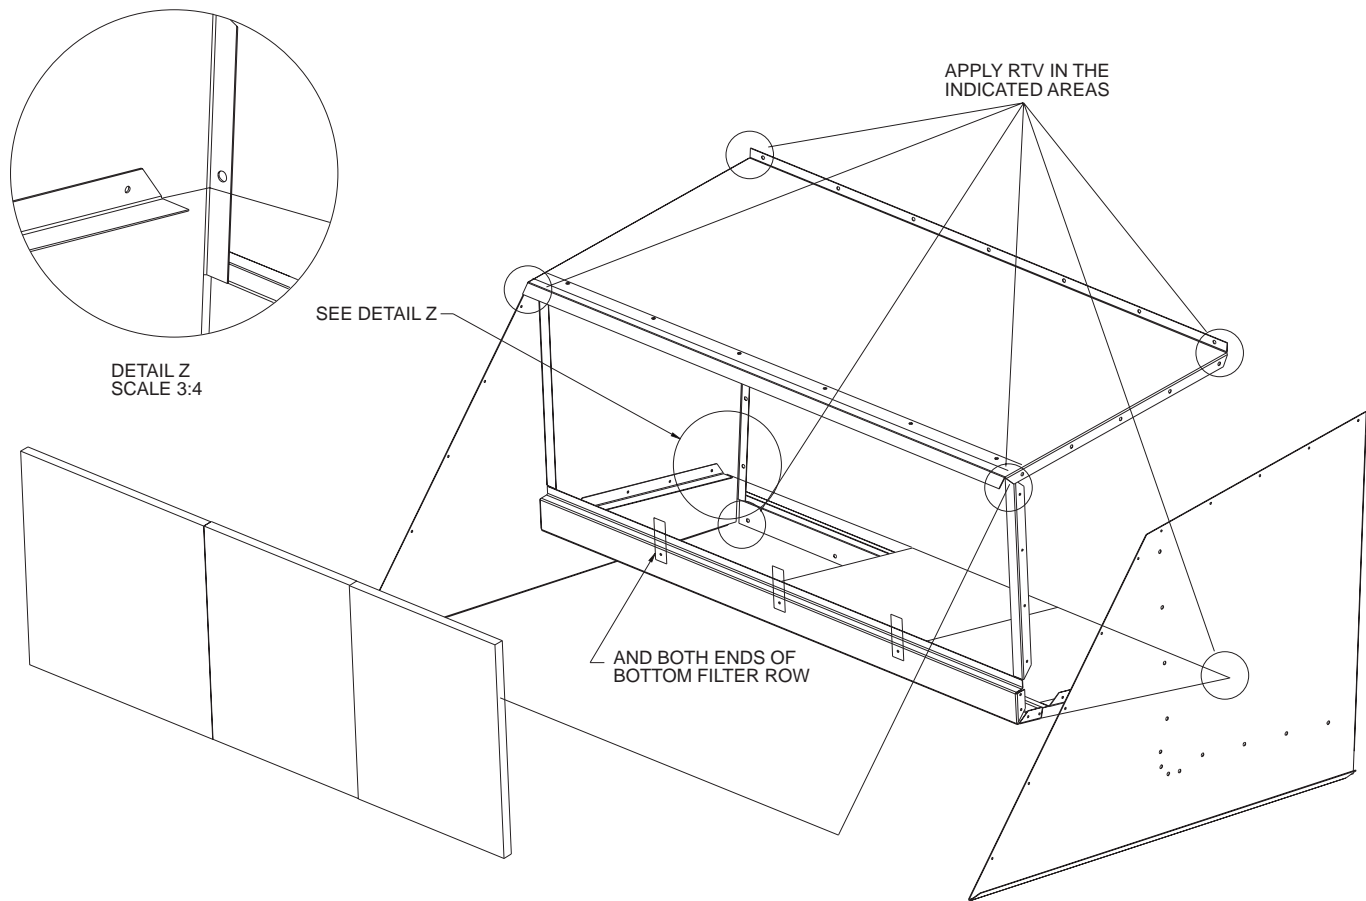

Fig. 38 — Large Economizer Hood Assembly
INSTALL LARGE HOODS — Large hoods are shipped disassembled in the economizer section of the unit behind the large economizer hood shipping cover. See Fig. 38 for assembly details for large economizer hoods. To install the large economizer hoods, perform the following procedure:
16. Apply RTV or similar sealant to 6 places shown in Fig. 38.